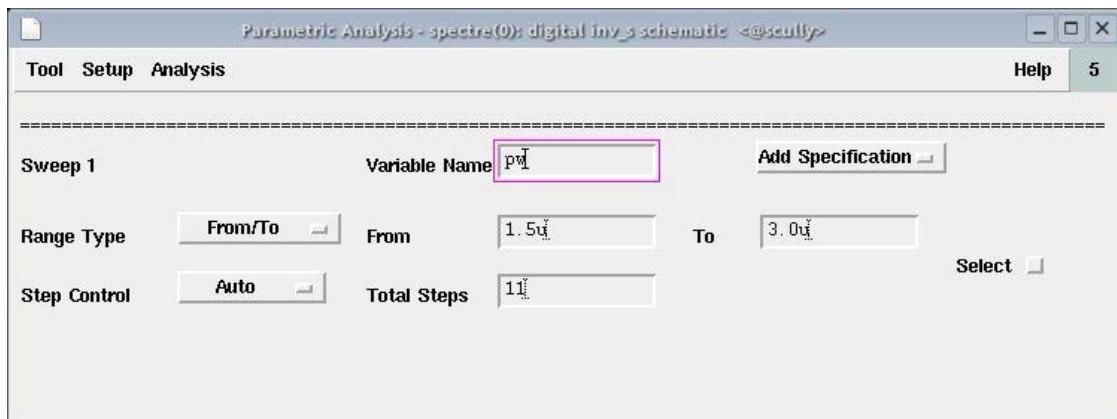

Figure 3: Parametric Analysis dialog window.
6. Verify that the Parametric Analysis window appears as it does in Figure 3. Once you are certain, begin simulation by selecting Analysis → Start.